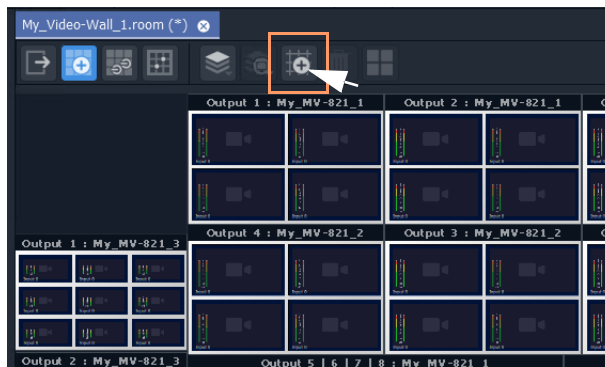

Fig. 15-32: Freehand Positioning Icon
- 1 Click on the **Freehand Positioning** icon (see Figure 15-32).